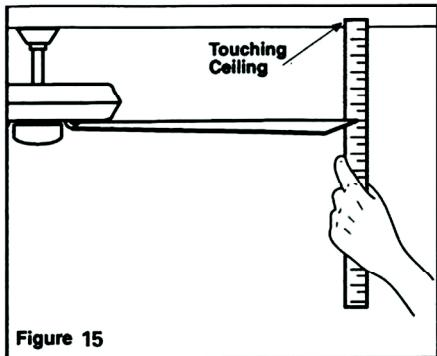

Figure 15
2. Most fan wobble problems are caused when blade levels are unequal. Check this level by selecting a point on the ceiling above the tip of one of the blades. Measure from a point on the center of each blade to the point on the ceiling. Measure this distance as shown in Figure 15. Rotate the fan until the next blade is positioned for measurement. Repeat for each blade. Measurements deviation should be within $1/8"$. Run the fan for 10 minutes.